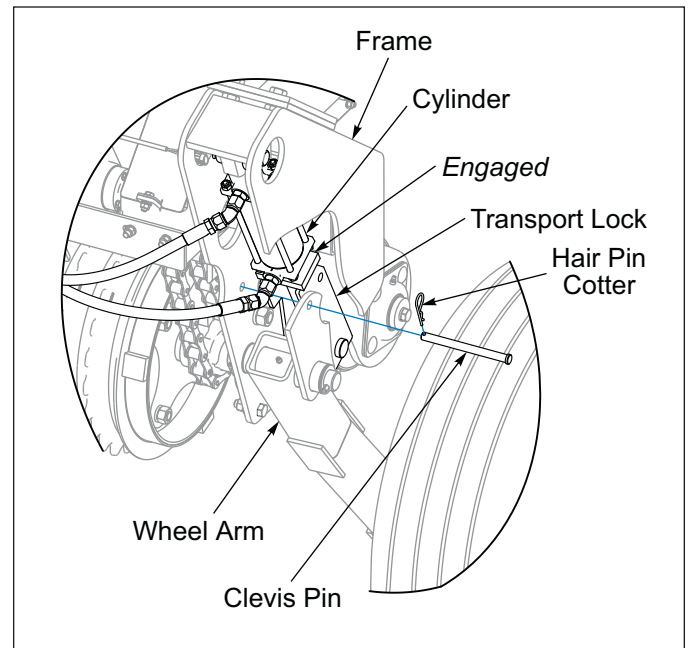

Figure 3-6: Transport Lock Engaged
5. If Transport Locks are not engaged, fully extend the Hydraulic Lift Cylinders and rotate Transport Locks in the engaged position over the Cylinder Rods. Secure with the Clevis Pins and Hairpin Cotter. See Figure 3-6.